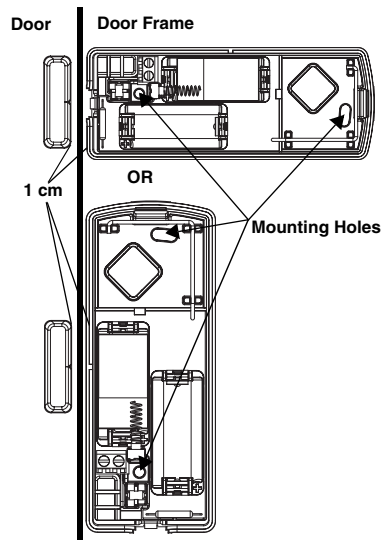

Figure 2. Mounting the Sensor and Magnet
2. Mount the sensor base with two #6 flathead screws at the locations shown in Figure 2.